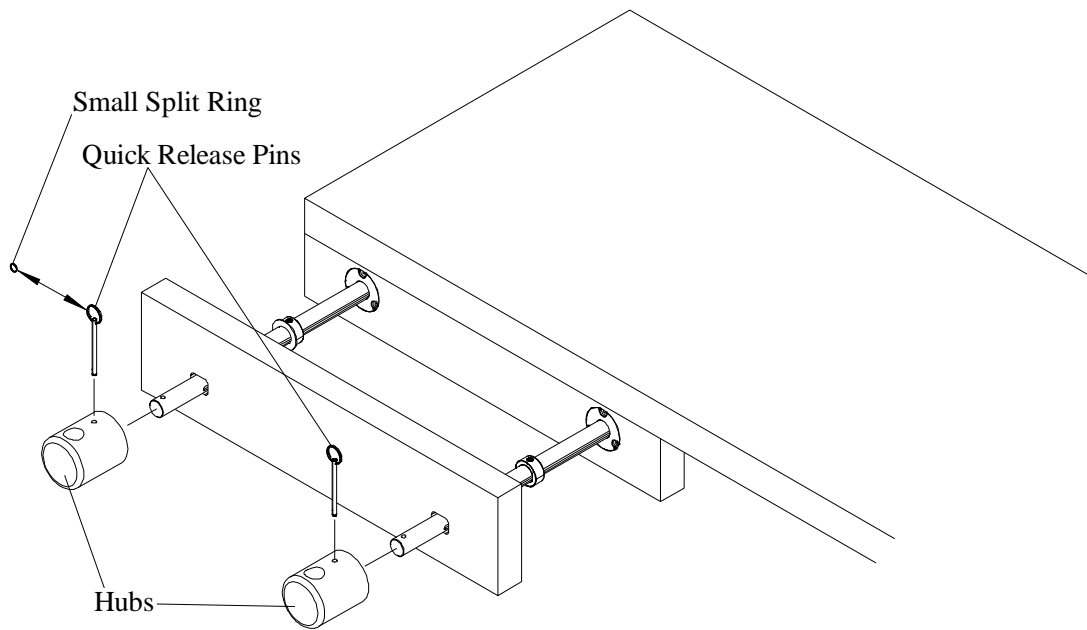

FIG. 12
Step 12: Place the wooden hubs on the clamp shaft and visually line up the cross holes. If you are using a metal hand wheel or using a single handle cap to make a single handle vise this process is the same. Insert the quick release pin into the cross hole in the hub and make sure it is completely through the clamp shaft and protrudes slightly out the other side of the hub. See Fig. 12. If desired, the small split ring may be installed in place of the large split ring.